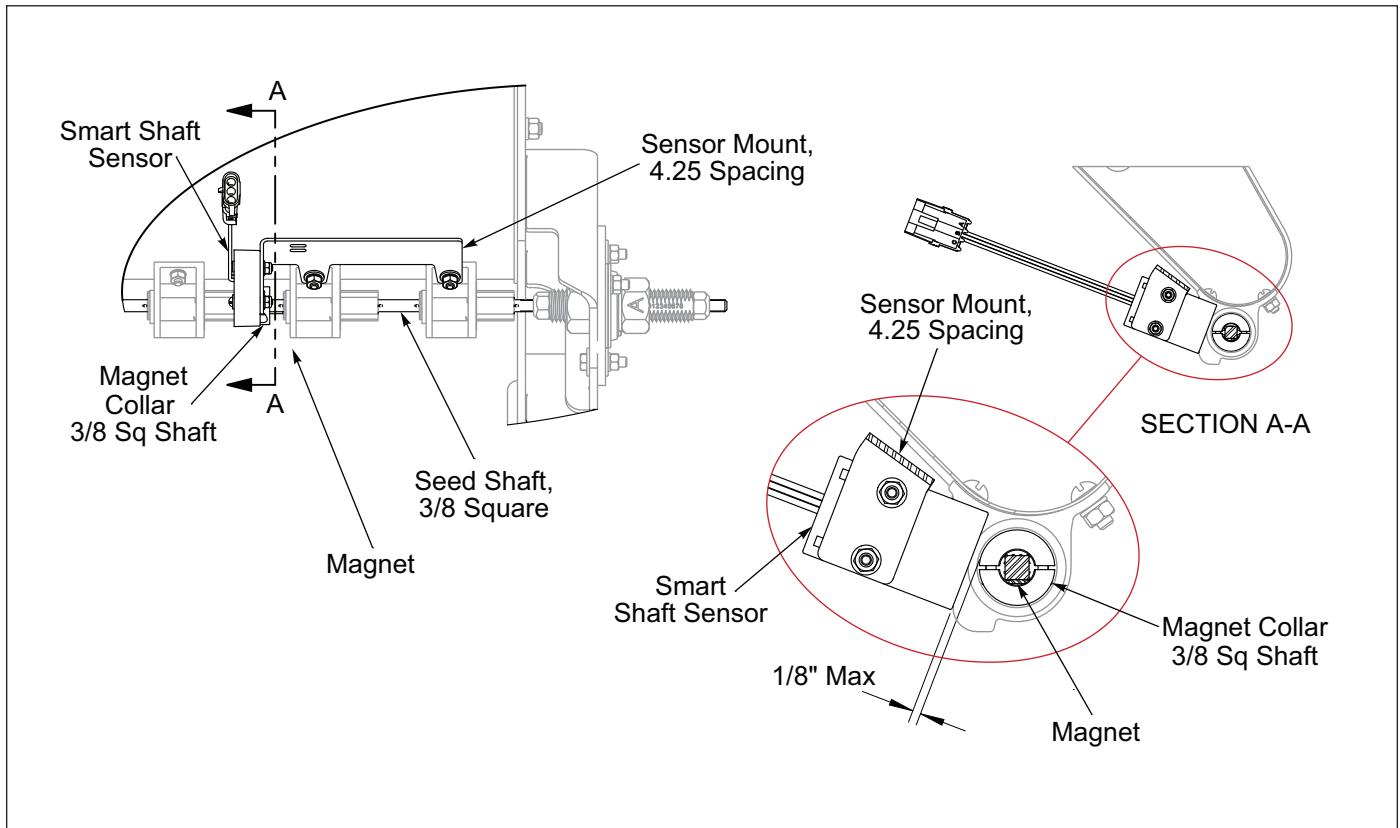

Figure 2-10: Brillion Elite Mini Monitor - Rear Small Meter Seed Box Seed Shaft Sensor
6. If Large Capacity Landscape Seeder is equipped with a Rear Seed Box verify that the pre-assembled Smart Shaft Sensor is positioned 1/8" Max away from the Magnet Mount Assembly and connect the Smart Shaft Sensor to each Seeder Harness. **See Figure 2-10.** If not equipped with a Rear Seed Box, seal the Seeder Harness Connector with 3-Pin Shroud and Cavity Plugs to protect the Seeder Harness from the environment.